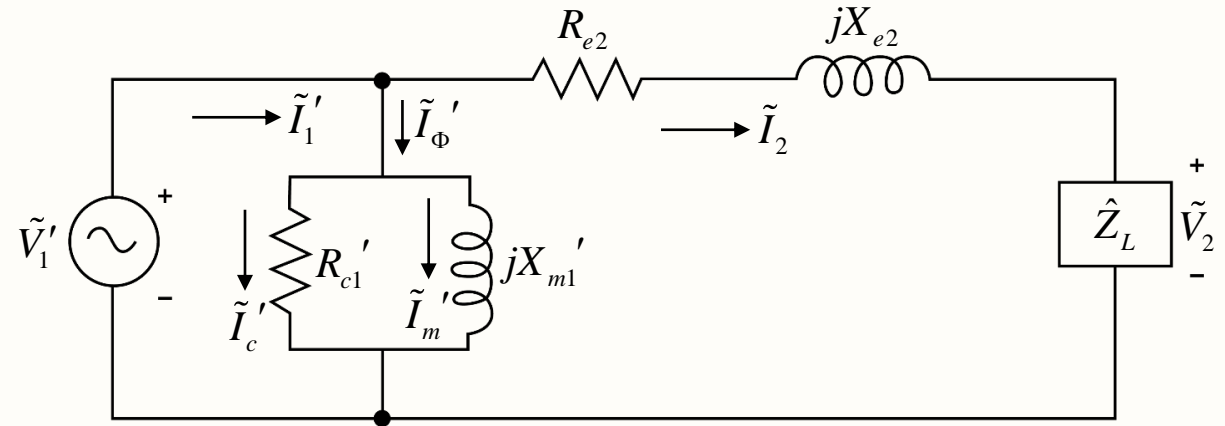

Fig. 34. Approximate equivalent circuit referred to the secondary.
- ❖ Consider the approximate equivalent circuit referred to the secondary side as shown in Fig. 34, the copper loss is